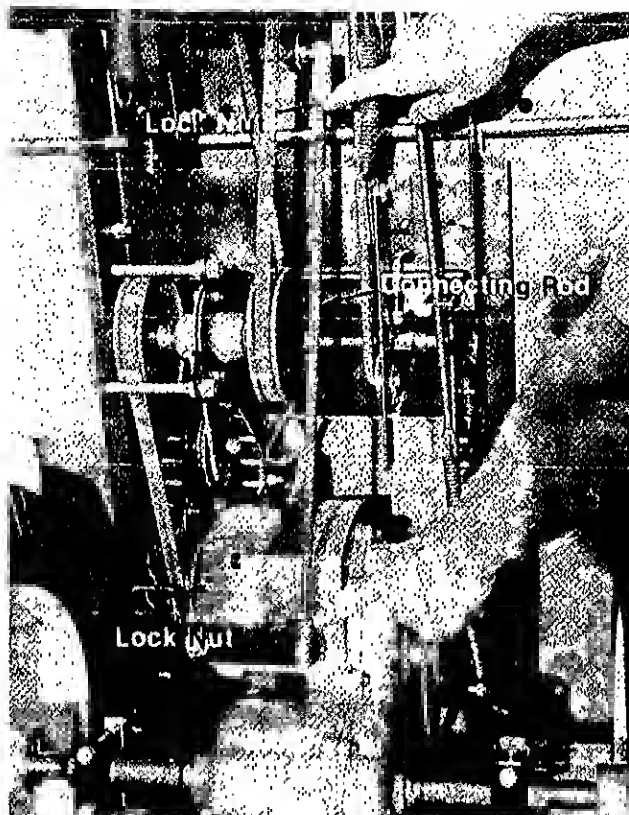

FIGURE 18.
2. Loosen both lock nuts on both ends of the connecting rod. See figure 18.